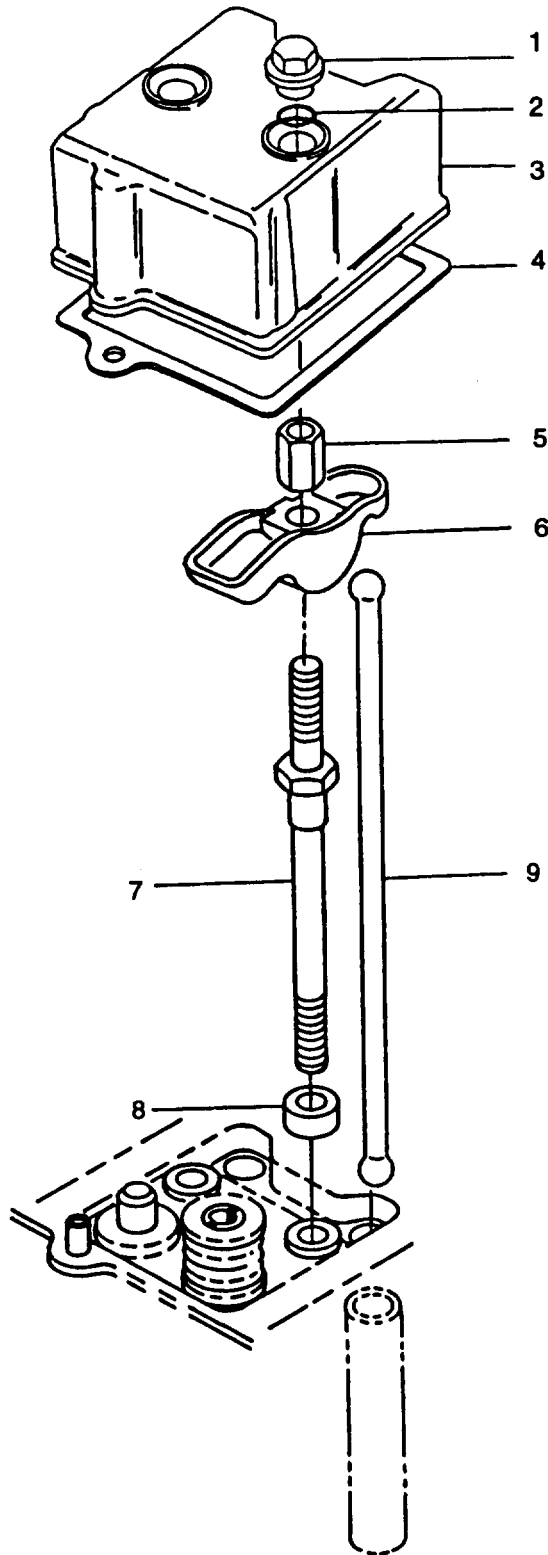

FIGURE 3-27. Cylinder Cover and Rocker Lever
3-25.1. Removal. Remove two nuts (1, FIGURE 3-27) and preformed packings (2) securing each valve cover (3) to cylinder head; remove cover (3) and gasket (4). Discard gasket (4) and preformed packings (2).
- Remove any traces of old gasket from cylinder head and valve covers (3, FIGURE 3-27) mating surfaces.
- Position each valve cover (3) with new gasket (4) on cylinder head and secure with two nuts (1) and new preformed packings (2). Tighten nuts (1) to 78 in-lbs (8.8 Nm).
- Remove nut (5, FIGURE 3-27) securing rocker lever (6) to cylinder head bolt (7); remove rocker lever.
- Remove pushrod (9).
- Do not remove cylinder head bolt (7) and spacer (8) unless damaged or cylinder head is being removed.
- Check pushrod (9, FIGURE 3-27) as follows:
- h. Remove two bolts (3), two bolts (4), and four washers (5). Refer to FIGURE 3-27 and remove four bolts (7) and spacers (8).